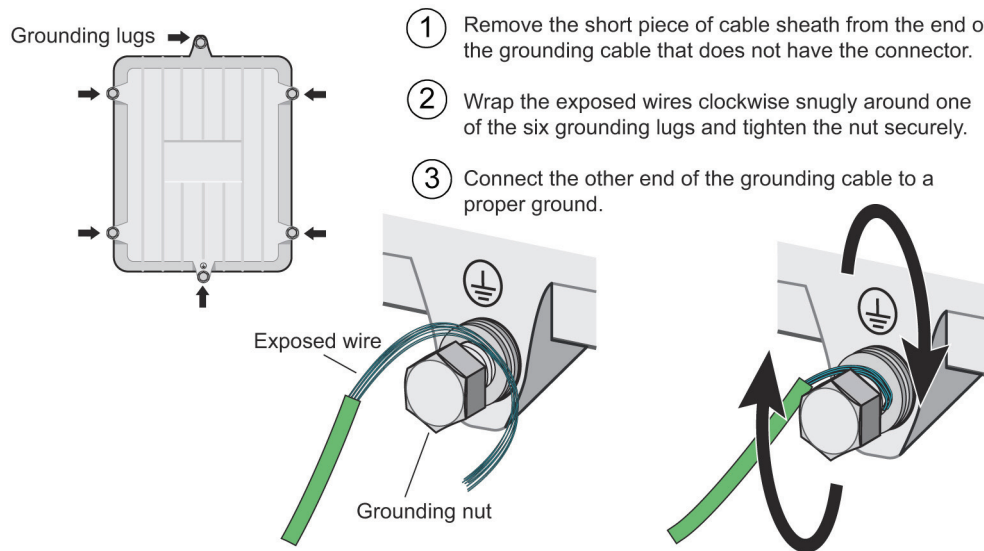

Figure 10. Connecting the grounding cable to the grounding lug on the unit.
5. Connect the grounding cable to the grounding lug on the unit, as shown in Figure 10. Connect the other end of the cable to an appropriate ground.
6. Connect the grounding cable to the grounding lug on the unit, as shown in Figure 10. Connect the other end of the cable to an appropriate ground.